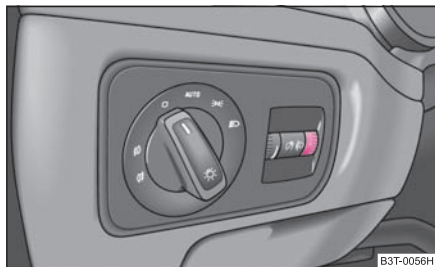

Fig. 45 Dash panel: Lights and Visibility
- Turn the control dial \Rightarrow fig. 45 until you have adjusted the low beam so that oncoming traffic is not dazzled.